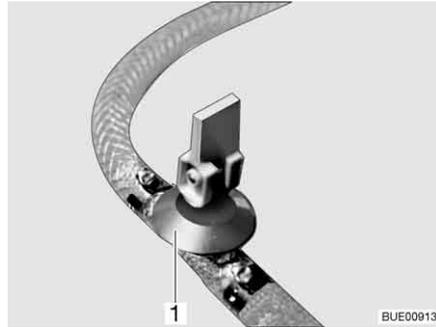
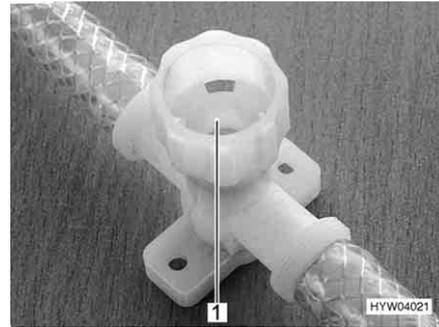

Fig. 156 Drain cock (with rocking lever)
Fig. 157 Drain cock (with twist cap)
- Close all drain cocks. To do this, position the drain cock's rocking lever (Fig. 156,1) horizontally or turn the drain cock's cap (Fig. 157,1) in a clockwise direction.